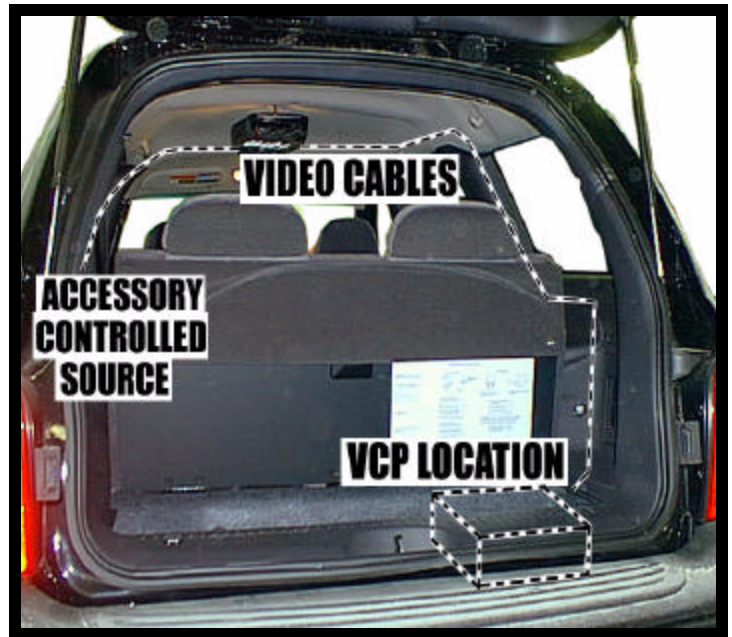

FIGURE 6
10. Install and route all video and audio cables, and any other added component requirements to their respective places in the vehicle. Refer to component installation instructions for wiring diagrams. The suggested routing of the video system cable is as follows: Above the headliner from video system to B-pillar. Down the B-pillar to the floor. Route the power lead to an accessory controlled source. Connect the ground lead to the vehicle chassis. Route the remaining wiring (RCA plugs, Remote Sensor extension, etc.) to the VCP location. See Figure 6. Connect per instructions included with the video system. If video system is to be used as a television, install an appropriate antenna per instructions included with the antenna.